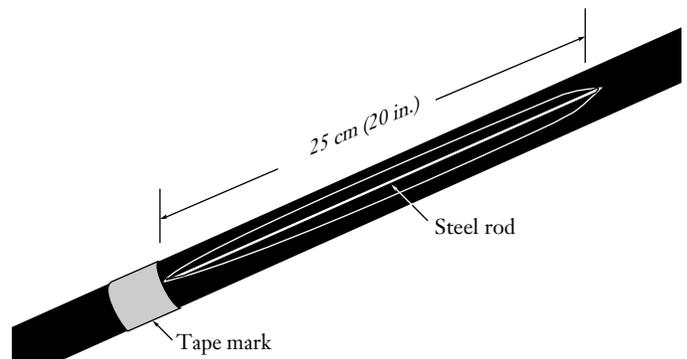

Figure 26
7.5 Starting at one tape mark, use the cable sheath knife to shave off 25 cm (10 in.) of outer sheath over both steel rods. Shave the sheath until both steel rods are visible (Figure 26).